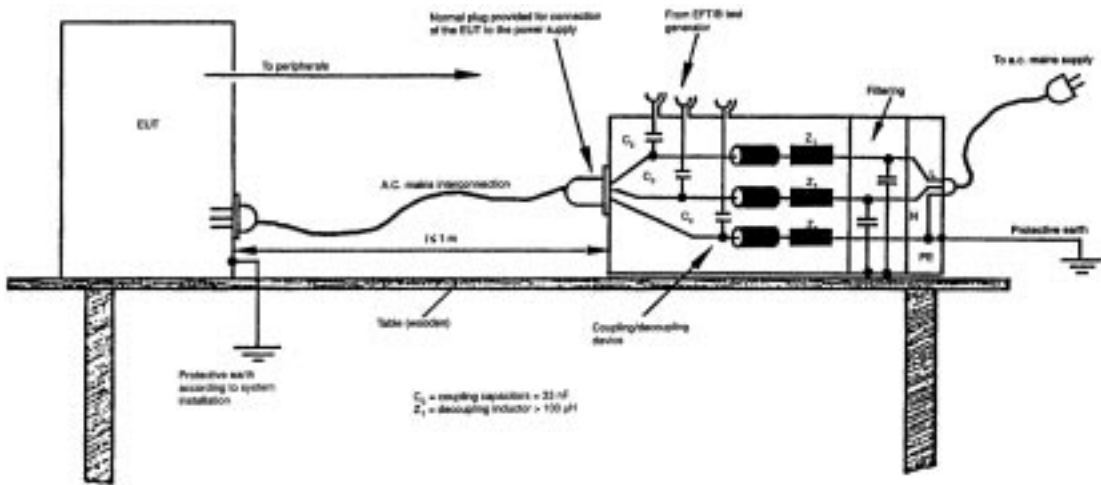

Figure 10. Example for field test on AC mains supply and protective earth terminals for non-stationary mounted EUT.
– Non-stationary mounted EUT, connected to the mains supply by flexible cord and plugs: The test voltage shall be applied between each of the power supply conductors and the protective earth at the power supply outlet to which the EUT is to be connected. (See Figure 10).